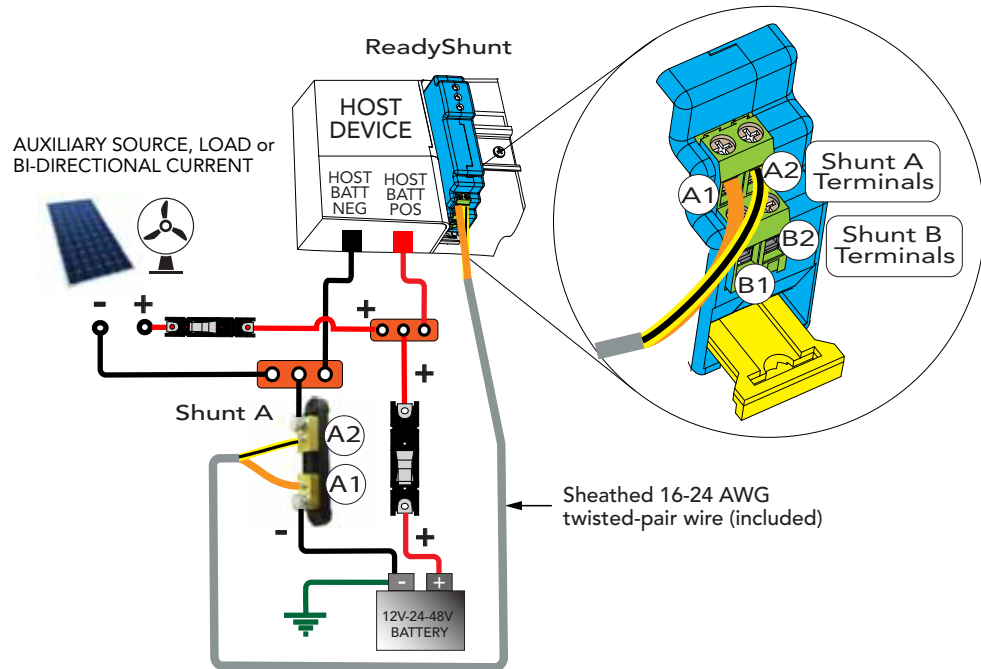

Figure 5-3. Shunt Block Net Battery Current Wiring Example
For a system with a negative leg shunt(s), connect the yellow/black stripe (twisted-pair) wire to the charging/load side of the shunt, and then connect the other end to the A(2) or B(2) ReadyShunt terminal (see **exploded view** of terminals in Figure 5-3, 5-4 and 5-5).
Refer to Figures 5-3, 5-4 and 5-5 for common application schematics. Busbars are shown for clarity, and actual wiring may vary.